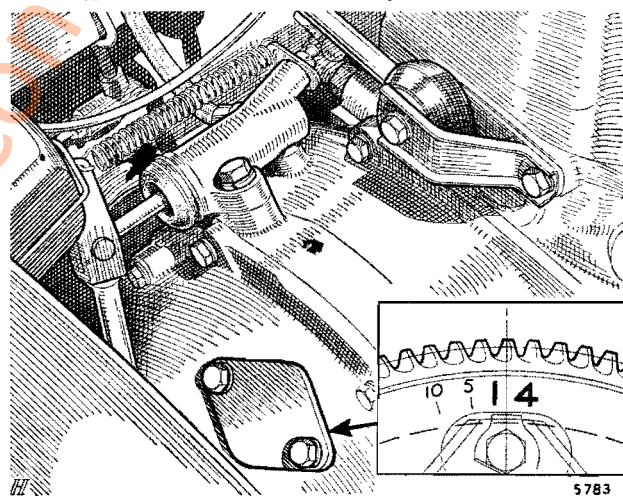

Fig. B.7
- (1) Remove the distributor and make quite certain that the distributor driving spindle has been refitted correctly as in Section A.16.
- (2) Turn the engine in the direction of rotation until No. 1 piston is at T.D.C. on its compression stroke; this can be effected by turning the engine and observing the valves. When the valves are 'rocking' (i.e. exhaust just closing and the inlet just opening) on No. 4 cylinder No. 1 piston is approximately at T.D.C. on its compression stroke. If the engine is now rotated until the 1/4 mark on the flywheel is in line with the pointer in the aperture on the clutch cover (see Fig. B.7) the piston is exactly at T.D.C. Turn the engine back from this position until the pointer indicates the correct setting.